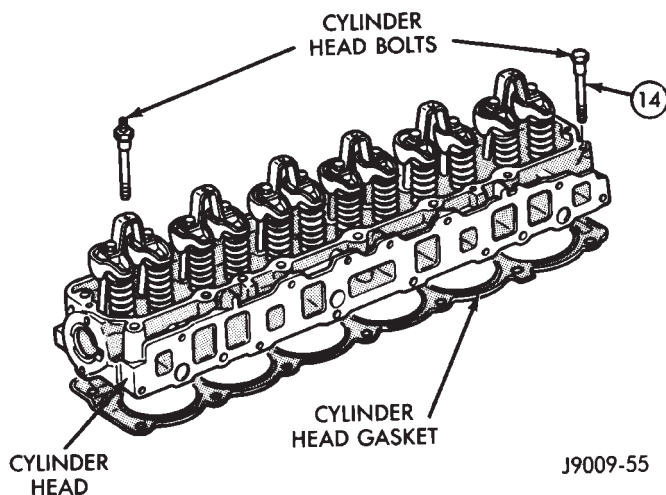

Fig. 6 Engine Cylinder Head Assembly
(9) If equipped, disconnect the power steering pump bracket. Set the pump and bracket aside. DO NOT disconnect the hoses.
(10) Perform the Fuel System Pressure Release procedure (refer to Group 14, Fuel System).
(11) Remove the fuel lines and vacuum advance hose.
(12) Remove the intake and engine exhaust manifolds from the engine cylinder head (refer to Group 11, Exhaust System and Intake Manifold for the proper procedures).
(13) Disconnect the ignition wires and remove the spark plugs.
(14) Disconnect the temperature sending unit wire connector.
(15) Remove the ignition coil and bracket assembly.
(16) Remove the engine cylinder head bolts. Bolt No.14 cannot be removed until the head is moved forward (Fig. 6). Pull bolt No.14 out as far as it will go and then suspend the bolt in this position (tape around the bolt).
(17) Remove the engine cylinder head and gasket (Fig. 6).
(18) If this was the first time the bolts were removed, put a paint dab on the top of the bolt. If the bolts have a paint dab on the top of the bolt or it isn't known if they were used before, discard the bolts.
(19) Stuff clean lint free shop towels into the cylinder bores.